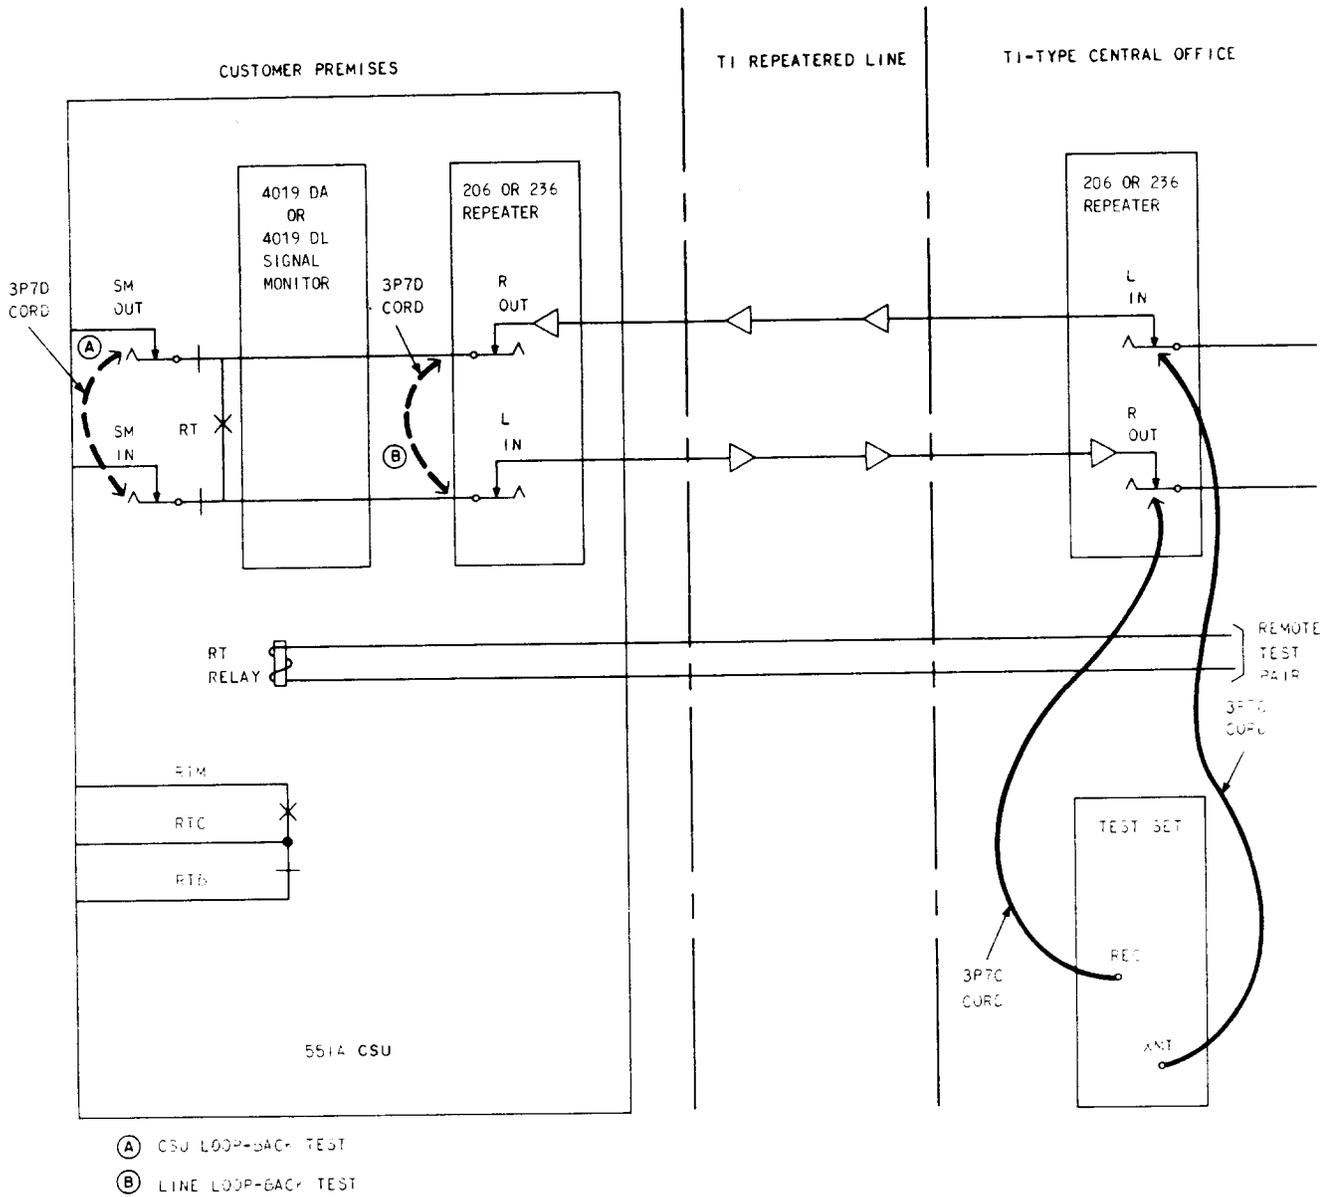

Fig. 1—Remote Loopback Test
2.01 The CSU loopback test checks the repeater and signal monitor circuitry by remotely looping the transmit pair to the receive pair at the customer interface and transmitting test signals. The loopback test may be established by operating the remote test relay or by manually patching the SM-IN jack to the SM-OUT jack on the CSU (Fig. 1).
Note: If the remote test feature is not provided, the CSU can be looped by patching the SM-IN jack to the SM-OUT jack using a 3P7D cord. (See Fig. 1.)
- 5 Patch one of the four DS1-OUTPUT jacks on the error rate test set to the L IN jack on the CO repeater. (See Fig. 1.)
- 6 Patch the R OUT jack on the CO repeater to the DS1-INPUT jack on the error rate test set. (See Fig. 1.)
4.01 The line loopback test checks the repeater and T1 repeatered line by looping the transmit pair to the receive pair at the repeater in the CSU and transmitting test signals. This test provides a method of isolating a trouble to the T1 line or CSU. The actual test is performed at the CO. The loopback is made manually by patching the R OUT jack to the L IN jack on the repeater (Fig. 1).
2	On the CSU repeater, strap R-OUT jack to L IN jack using a 3P7D cord (Fig. 1).
4	Patch one of the four DS1-OUTPUT jacks on the error rate test set to the L IN jack on the CO repeater. (See Fig. 1.)
5	Patch the R OUT jack on the CO repeater to the DS1-INPUT jack on the error rate test set. (See Fig. 1.)